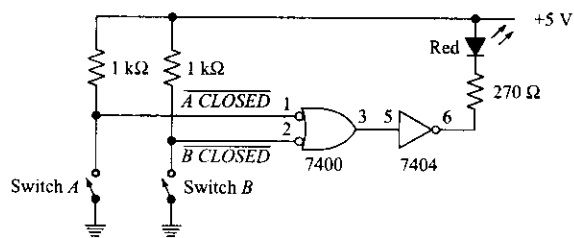

Fig. 14.55
14.32 When switch B of Fig. 14.55 is closed, is the LED on or off? For this condition, what is the current in the LED?